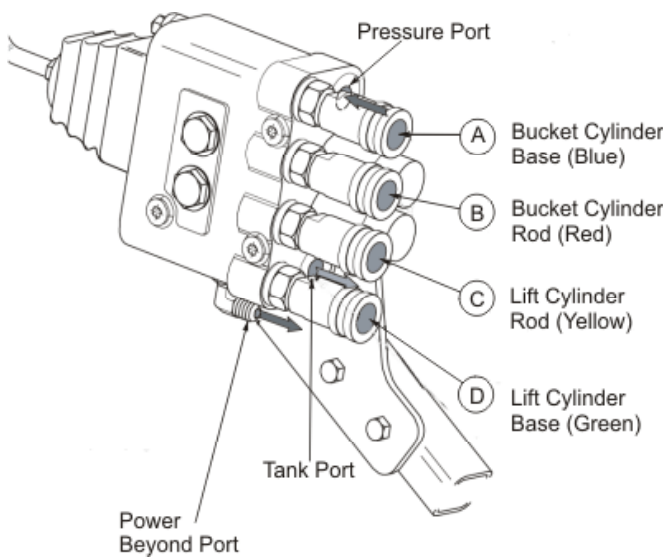

Figure 2
PLUMBING CONTROL VALVE TO TRACTOR HYDRAULICS (Figures 2 & 3)
1. Slide sleeve (21) over each of two 3/8 x 44 hoses (27) and connect to boom oil line tubes. Install and tighten hose fittings one at a time from bottom up. Loosening closest oil line clamp will ease installation.
2. Install male quick couplers (25) onto free ends of hoses (27). Install 5/8 spiral bands (26) onto free ends of hoses (27) to match bands (16) on female quick couplers.
3. Connect hoses from upper two boom oil lines to upper female quick couplers and connect hoses from lower boom oil lines to lower two female quick couplers (Figures 2&3). Bundle hoses together using tarp strap (30).